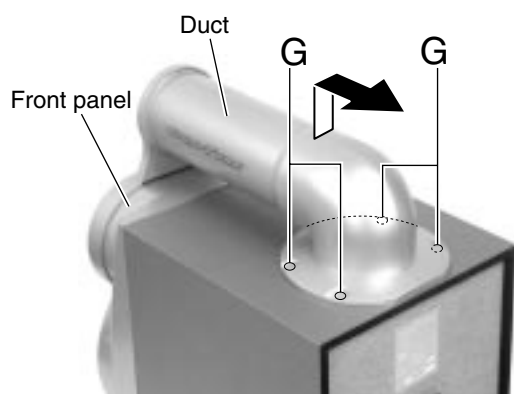

Fig.8
■ Removing the duct (See Fig.8)